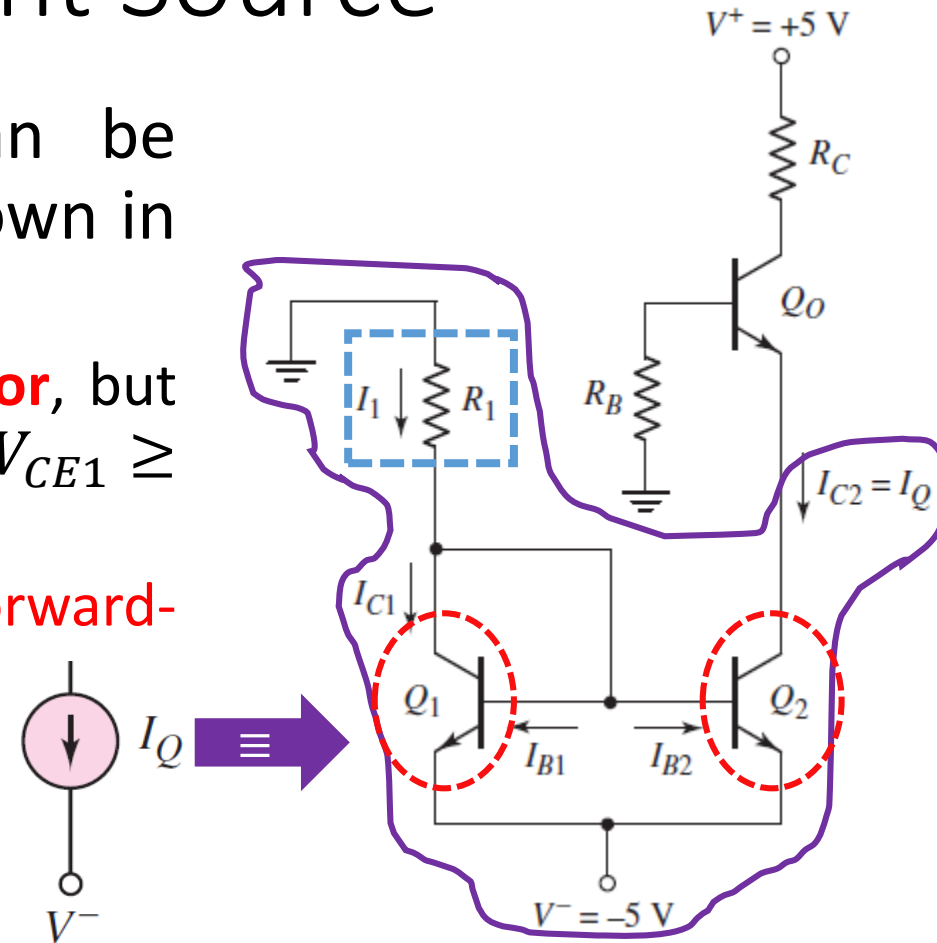

Figure 5.60
- The **constant current source**  can be implemented by using two transistors as shown in Figure 5.60.